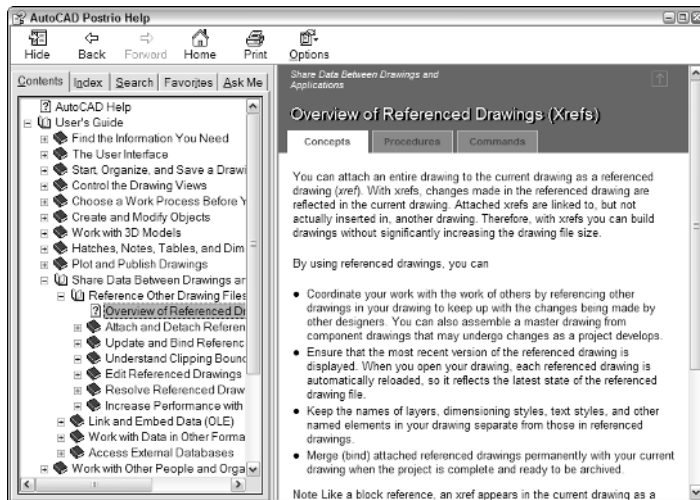

Figure 2-14:
- ✓ **Help:** The main AutoCAD 2007 online help system, shown in Figure 2-14, uses the same help engine as the Microsoft Office programs, Internet Explorer, and other modern Windows applications. As with these other programs, AutoCAD's help is context-sensitive; for example, if you start the LINE command and just don't know what to do next, Help will . . . er, help. Click the Contents tab to browse through the various online reference manuals, the Index tab to look up commands and concepts, and